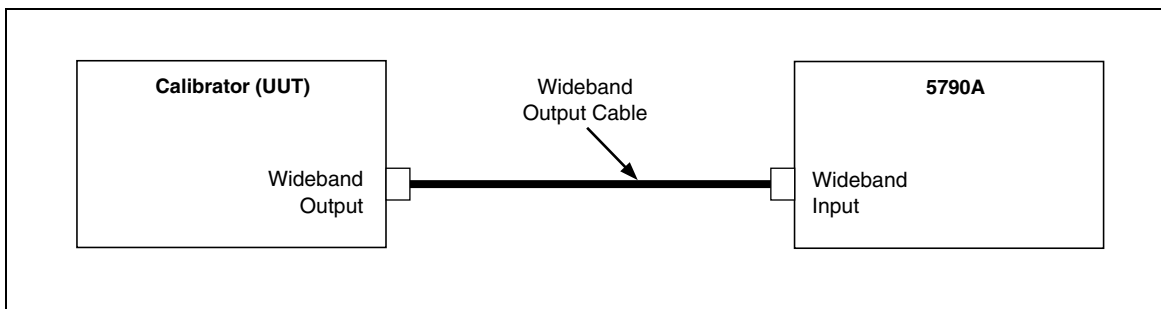

Figure 3-17. Wideband Flatness Test Setup
1. Connect the equipment as shown in Figure 3-17. Note that the Calibrator wideband cable is connected to the 5790A directly, the termination is not used.